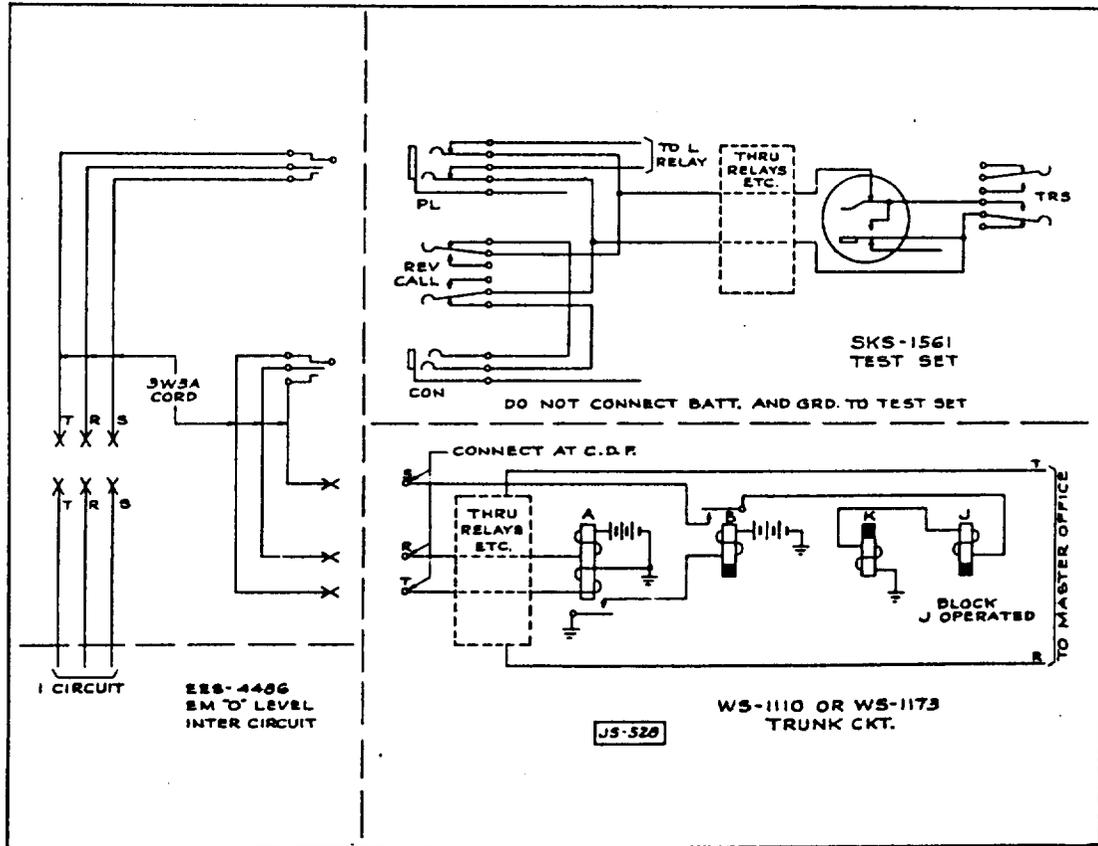

Fig. 1
3.07 Make connections as shown in Figures 1, 2, or 3 depending on the test set and trunk circuit in the office involved.
4.04 Community Dial Offices with Test Set SKS-1561 and Trunk Circuit WS-1110 or WS-1173 (Fig. 1).